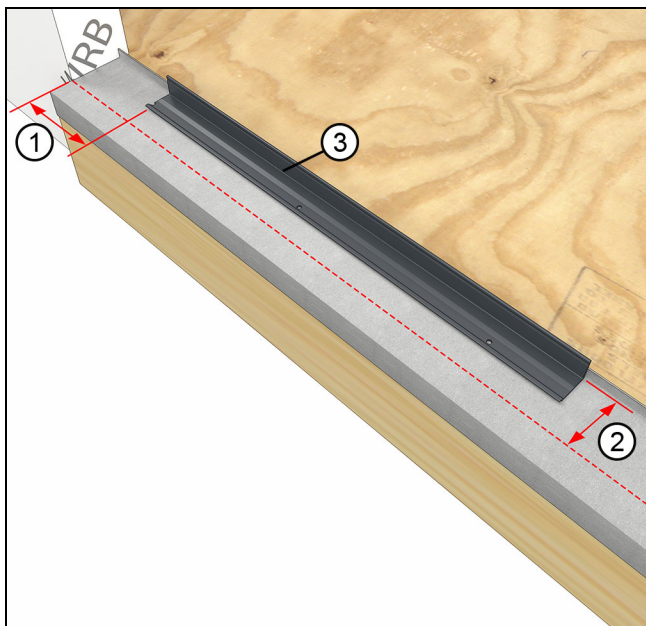

Figure 21
1. For configurations where the first unit you install in an opening is a door, measure $5\frac{3}{16}$ " away from the rough opening and install the sill support $3\frac{5}{16}$ " from the exterior sheathing line. See Figure 21.